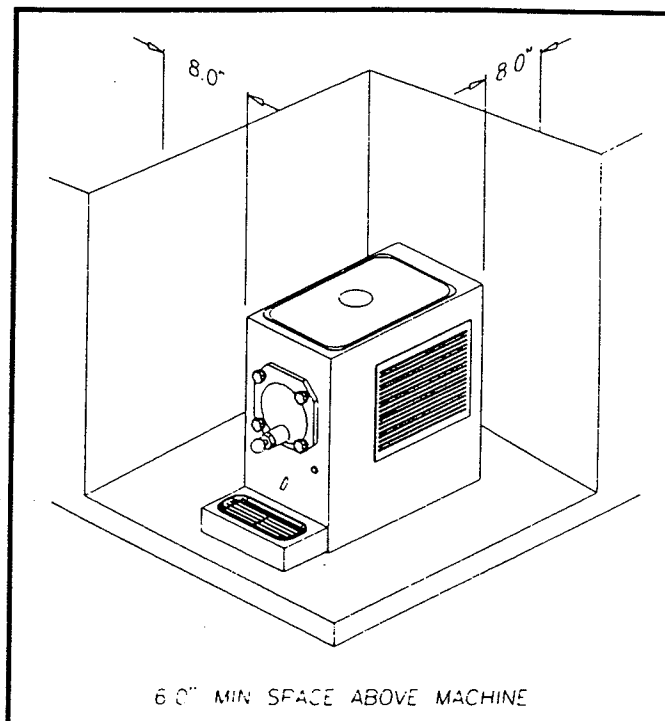

Figure 5
C. Freezers equipped with air cooled condensers must have correct ventilation. Air intake is at the rear of the freezer and discharge through the side; both require 8" (20.5 cm) clearance. All freezers require 6" (15.2 cm) at the top (Fig. 5). Water cooled freezers require a 3/8" (.95 cm) I.D. supply line and a 3/8" (.95 cm) I.D. drain line minimum. The water lines must be connected in a manner that will comply with local codes.